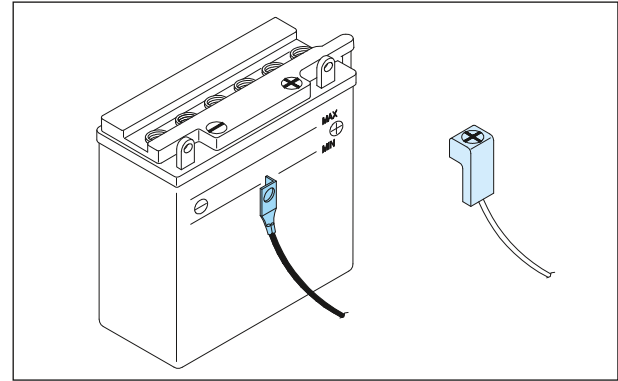

Fig. 6.1
- Apply petroleum jelly on the terminals after the completion of the connection and cover the positive terminal with the boot. (Fig. 6.1)